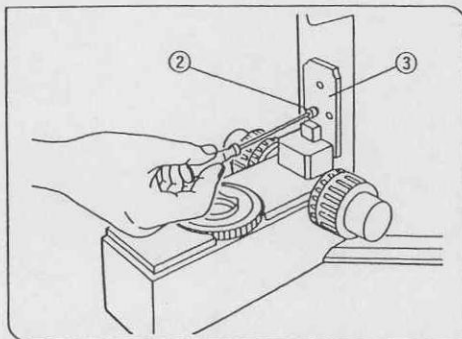

Fig. 43
3. Turn the coarse adjustment knob and raise the focusing block ③ to where the stopper screw ② in the arm becomes visible. (Fig. 43)
4. Using the Allen wrench, loosen and remove the upper stopper screw ②.